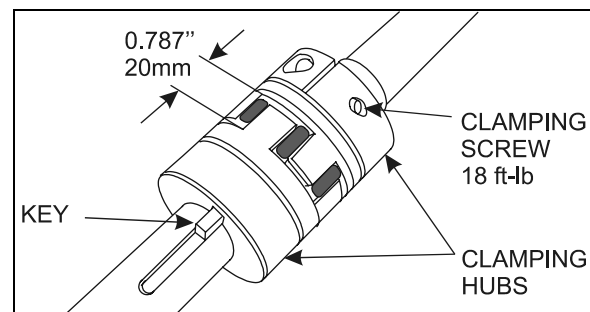

FIGURE 20: JAW COUPLING
To tighten the keyless bushing, use a special open-end wrench to retain the yellow part and another wrench to tighten the black part. Figure 20 shows how to tighten the keyless bushing. When tightening, make sure the pinion does not move or rotate.
8. Reconnect the clamping hubs with the spider. Leave a gap of 20mm (0.787inch) between each clamping hubs as shown on FIGURE 20. Use the motor hexagonal output shaft to align the keyways.